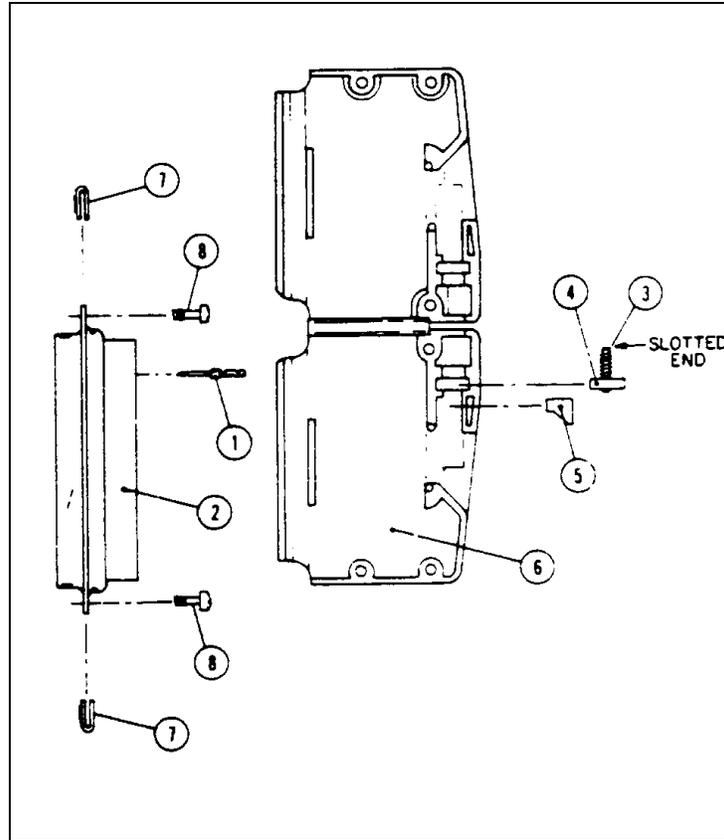

Figure A-1. Mating Connector Assembly
The following instructions describe assembly of the mating connector provided to interface the user's system with the option connector, J3. Figure A-1 identifies the parts of the mating connector.
- e. Screw a slotted setscrew (3) partially into a square nut (4) and place in position in connector shield assembly (6).
- f. Place strain relief (5) in position in connector shield assembly (6), just under set screw (3). Be certain that strain relief is oriented as shown in Figure A-1.
- g. Place connector pin housing (2) in shield assembly (6) and route cable through cable entrance.
- h. Fold connector assembly (6) and secure with three screws.
- i. Strain relief set screw (3) can now be adjusted from top of connector to clamp firmly on cable.
- j. Clip fasteners (7) onto ends of connector pin housing (2).
- k. Connector can now be plugged onto option connector J3 and secured with two screws (8) into the threaded stand-offs on either side of J3.